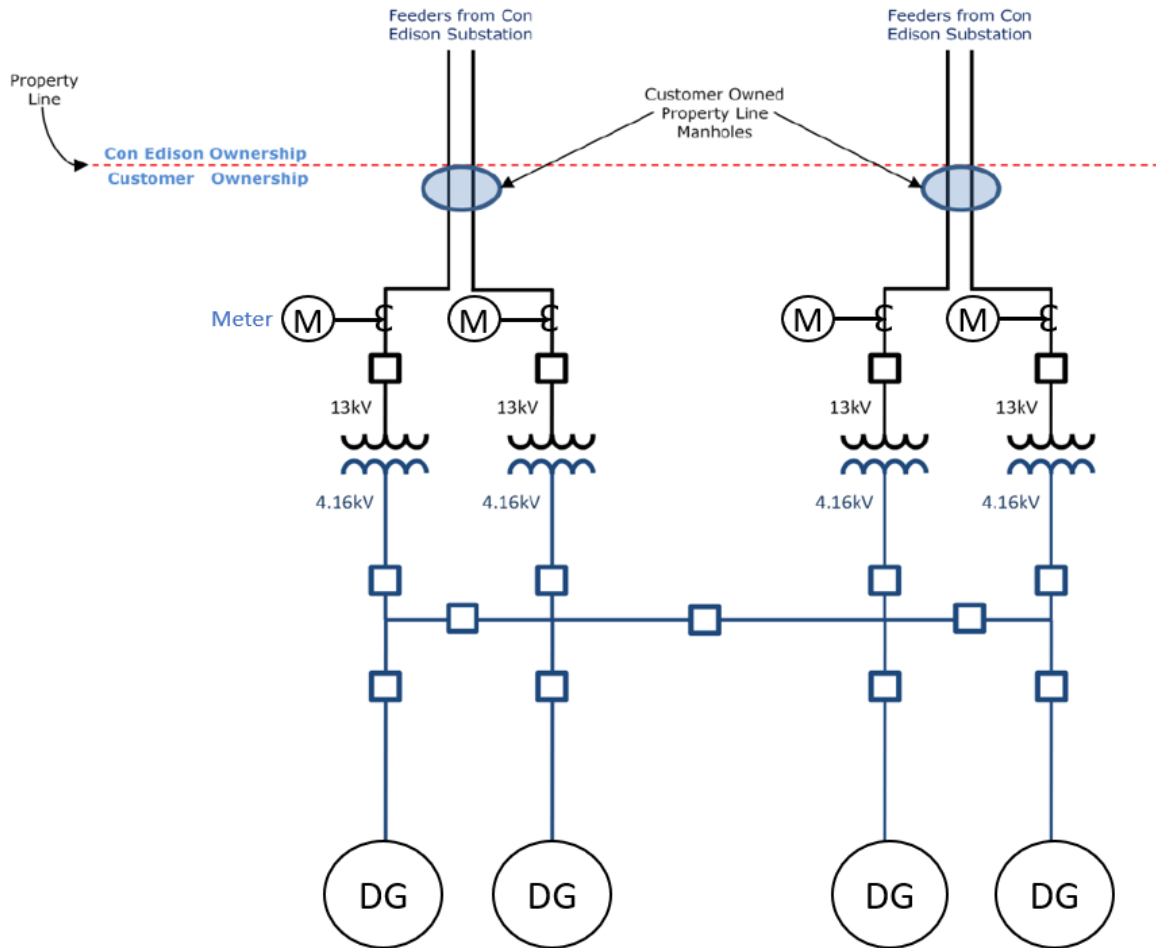

Figure 2 - Example of a parallel (4) Feeder High Tension Service
- The customer will be required to design, procure, install and operate the high tension installation to meet all applicable codes, laws, and Company specifications (See Figure 2).
- Figure 2 illustrates a parallel (4) feeders high tension service.